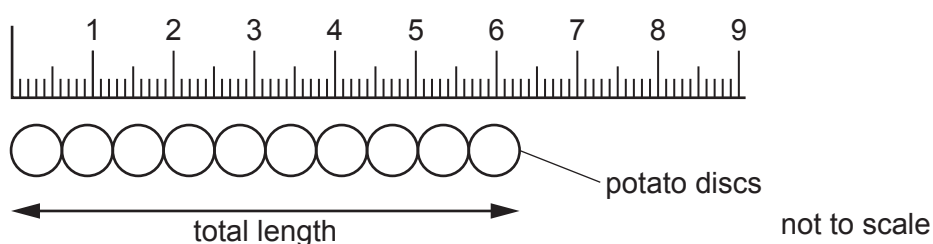

Fig. 1.2
- Step 4 Place 10 potato discs in a line next to a ruler, as shown in Fig. 1.2.
- Step 9 Remove the 10 potato discs from beaker **S1** and put them onto the white tile, line them up along the ruler, as shown in Fig. 1.2.